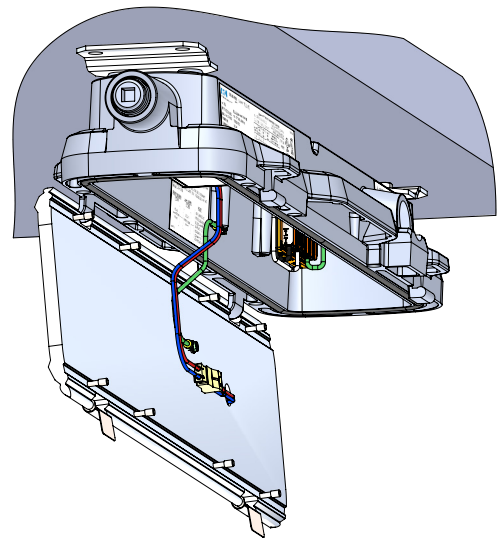

Figure 2. LED light engine fitting open servicing position
4. Pull on retention clips to free light engine from driver housing and pivot light engine to open position while light engine supported by driver housing hooks (see Figure 2).
12. Route LED light engine and LED driver output wiring and install tie wrap as directed in Figure 2. Trim excess tie wrap material.